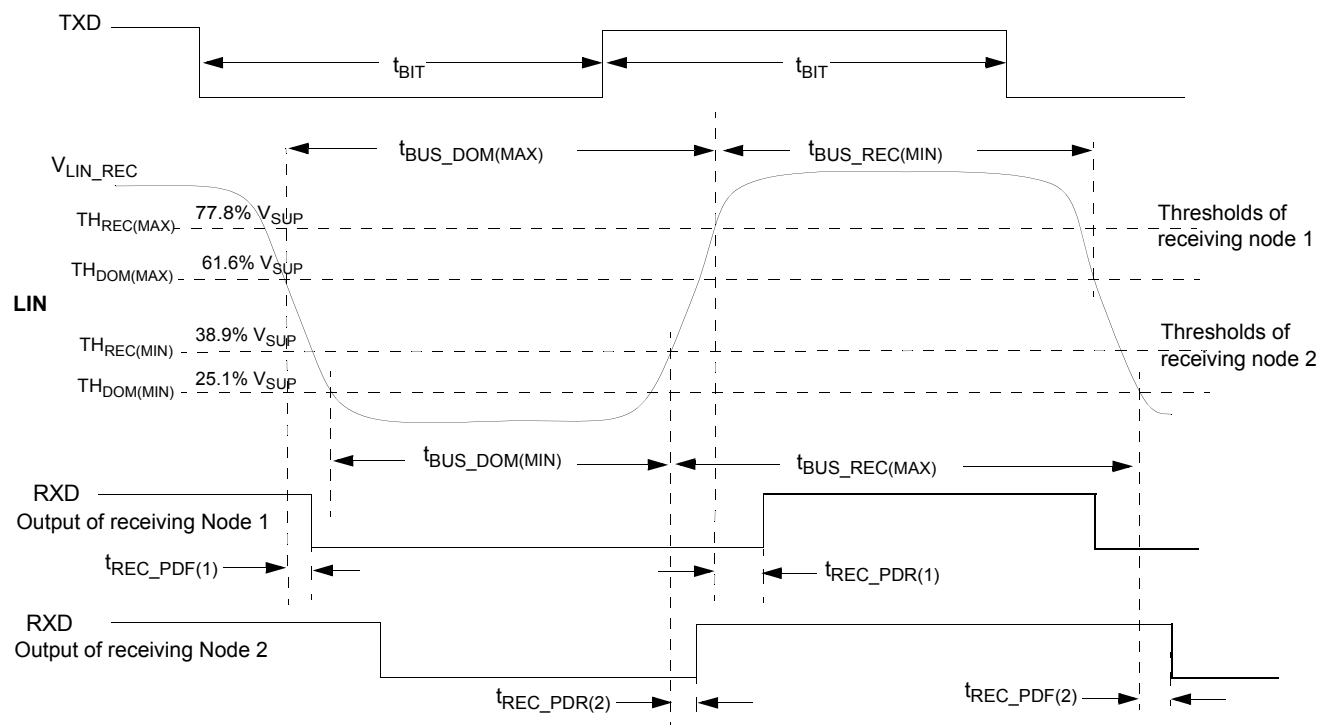

Figure 21. LIN Timing Measurements for Slow Slew Rate
**BUS LOAD  $R_{\text{BUS}}$  AND  $C_{\text{BUS}}$  1.0 NF / 1.0 K $\Omega$ , 6.8 NF / 660  $\Omega$ , 10 NF / 500  $\Omega$ . MEASUREMENT THRESHOLDS. SEE Figure 21, PAGE 32.**